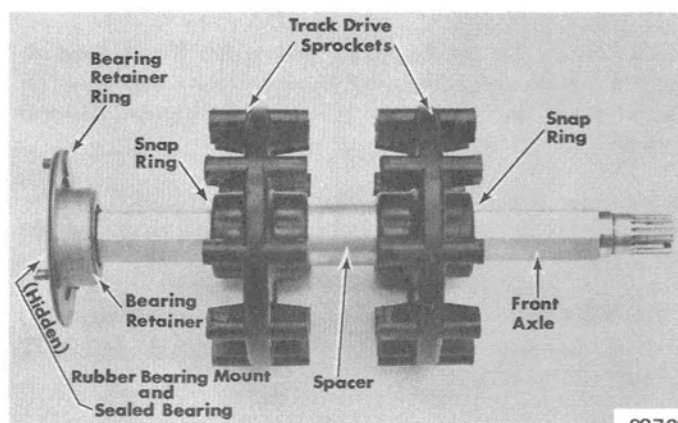

Figure 11. Front Axle Assembly
7. Pull bearing retainer ring, bearing retainer, rubber bearing mount and sealed bearing from front axle. (Figure 11)
8. Remove snap rings which hold track drive sprockets in position on front axle. Press sprockets and spacer (Figure 11) off front axle.
1. Install spacer and track drive sprockets in position on front axle. (Figure 11) Sprockets must be installed on front axle so that drive lugs of right sprocket are aligned with drive lugs of left sprocket. Secure sprockets with snap rings.
2. Install bearing retainer ring, bearing retainer, rubber bearing mount and sealed bearing on front axle. (Figure 11)